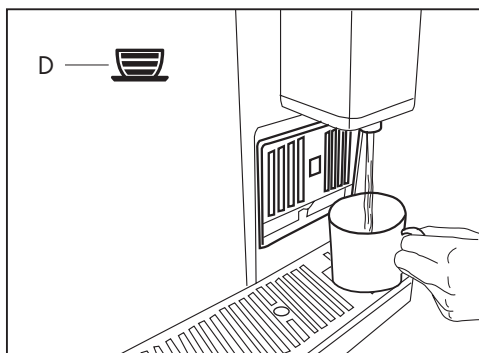

Fig.6
- Press the rinse button (D) (Fig. 6) and wait until dispensing is finished. In this way the machine is rinsed.